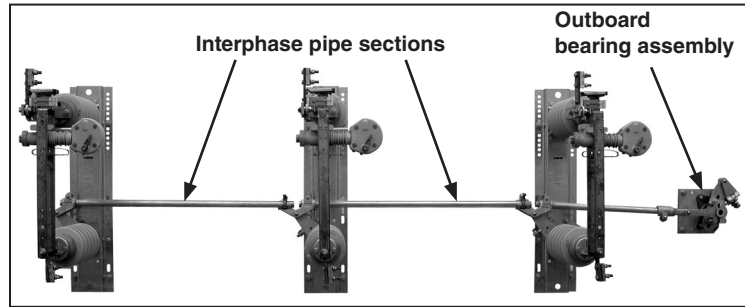

Figure 14. Use the horizontal pipe to connect the switch poles and outboard bearing.
STEP 11. Install the horizontal pipe sections connecting the switch poles and, if applicable, the outboard bearing assembly. See Figure 14. Follow the directions in “Installing Pipe Couplings with Piercing Set Screws” on page 13.